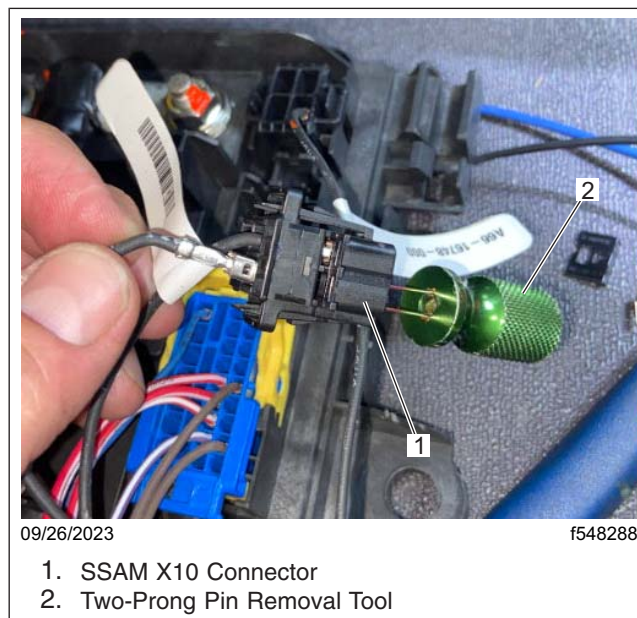

Fig. 20, Removing the Wire Using Two-Prong Pin Removal Tool
- 8.4 Use a two-prong pin removal tool to remove the wire from cavity 1 of the SSAM X10 connector. **See Fig. 20.**